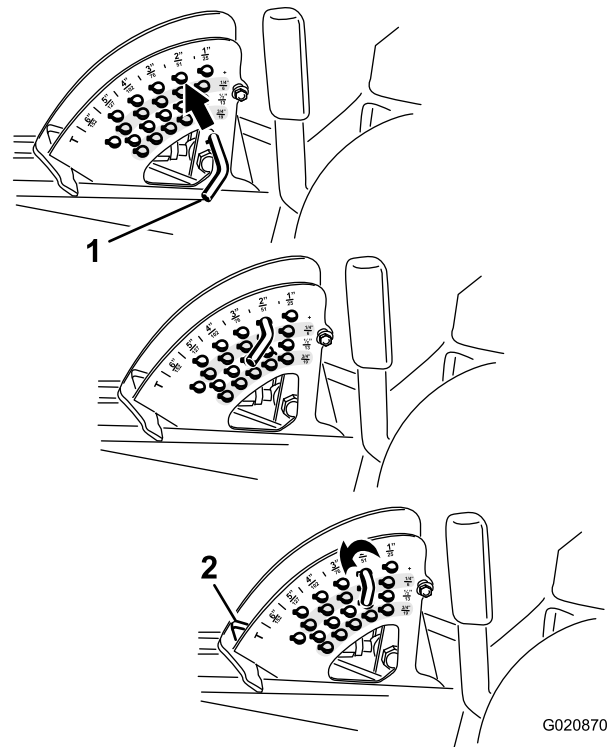

Figure 27
2. Rotate the stop pin until the roll pin in it lines up with the slots in the holes in the height-of-cut bracket and remove it (Figure 27).
3. Select a hole in the height-of-cut bracket corresponding to the height of cut desired, insert the pin, and rotate it down to lock it in place (Figure 27).
Note: There are 4 rows of hole positions (Figure 27). The top row gives you the height of cut listed above the pin. The second row down gives you the height listed plus 6 mm (1/4 inch). The third row down gives you the height listed plus 12 mm (1/2 inch). The bottom row gives you the height listed plus 18 mm (3/4 inch). For the 15.8 cm (6 inch) position, there is only 1 hole, located in the second row. This does not add 6 mm (1/4 inch) to the 15.8 cm (6 inch) position.